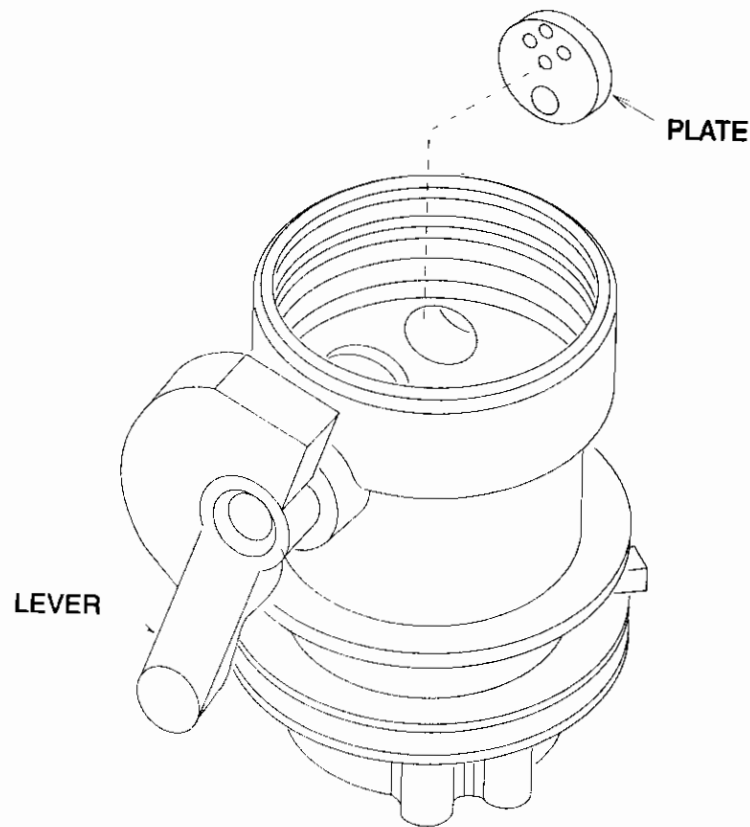

Figure 5-3. Plate and Lever Alinement
- (6) Aline plate (24) to lever (7) per figure 5-3 and secure with four socket head screws (19).
- (7) Install O-ring (17) into body (6).